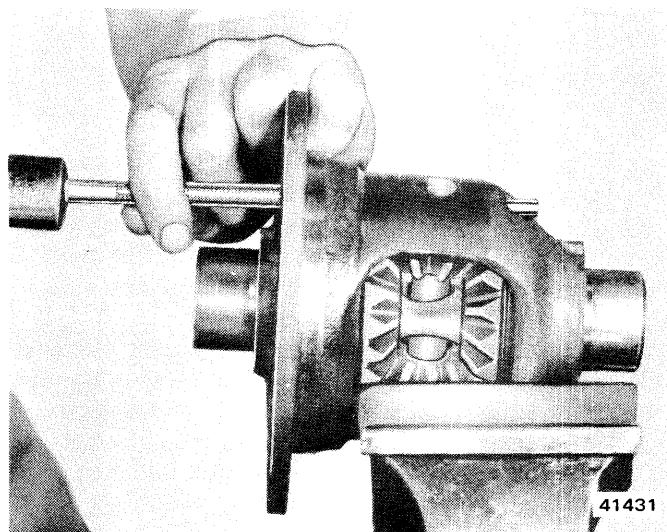

Fig. 10-32 Removing Pinion Mate Shaft Lockpin
(1) Using 3/16-inch diameter drift at least 3 inches long drive out lockpin that holds pinion mate shaft in place (fig. 10-32).